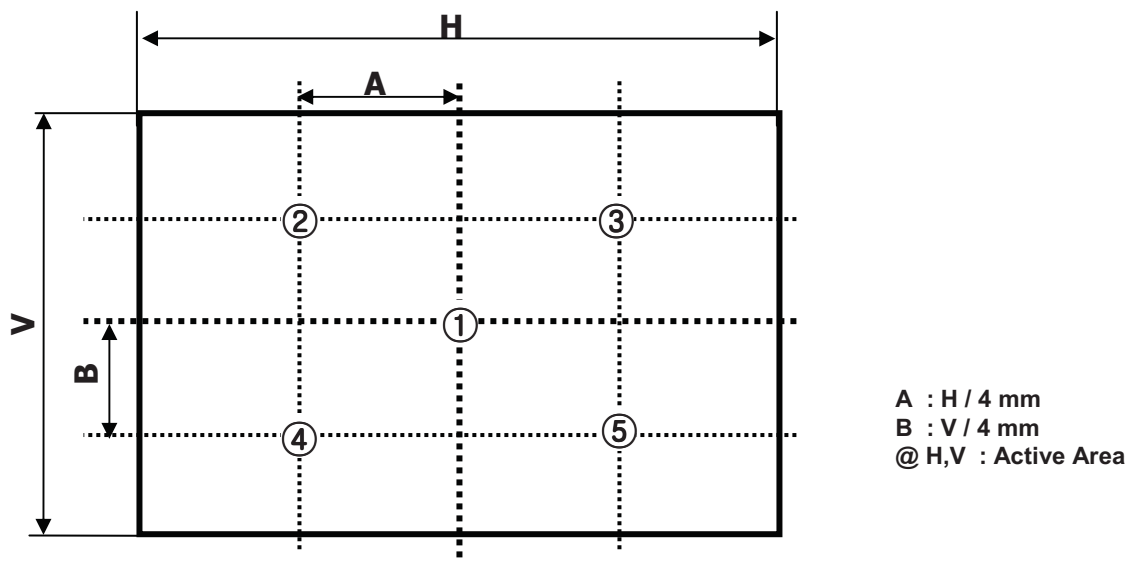

FIG. 2 5 Points for Luminance Measure
n = the Position number(1, 2, 3, 4, 5). For more information, see FIG. 2.
2. Surface luminance is determined after the unit has been 'ON' and 1 Hour after lighting the backlight in a dark environment at 25± 2°C. Surface luminance is the luminance value at center 1-point across the LCD surface 50cm from the surface with all pixels displaying white. For more information see the FIG. 2.
For more information, see the FIG. 2.